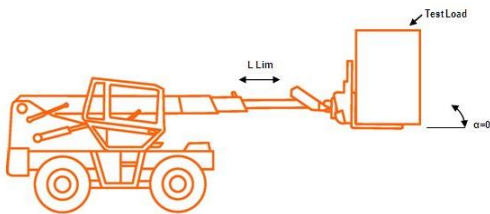

Figure 3.2.39
9) Step 9, it is necessary to make the telescopic handler reach the state as shown in Figure 3.2.39, that is, the boom is at a horizontal angle